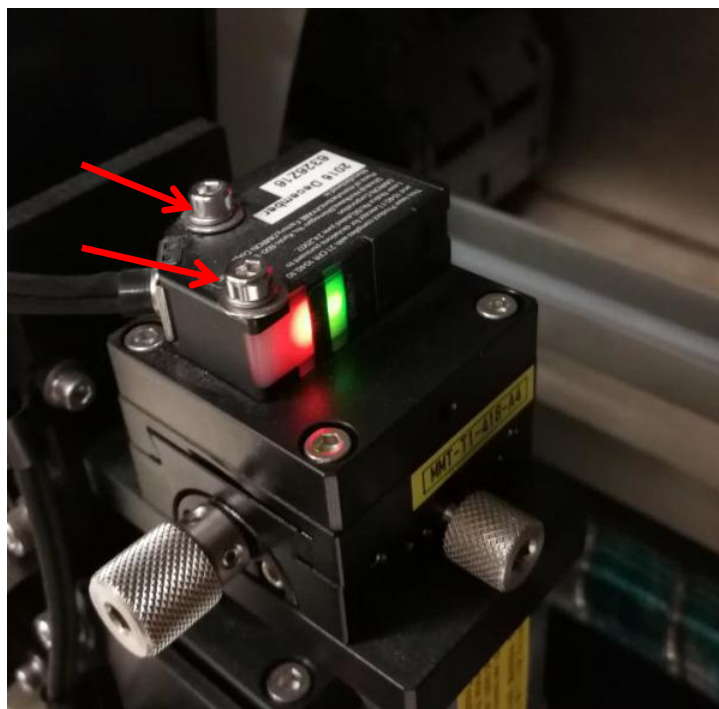

Figure 10
13. Assemble Filter Head Sensor Head & tighten 2 x Screws as Figure 10.